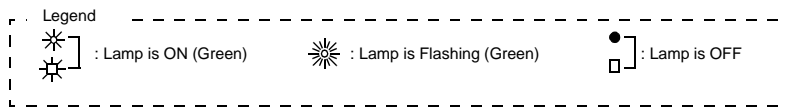

Figure 022-1 LED Indications in Normal Operation (Single IMG Configuration)
The OPE lamps (G) are shown in Figure 022-1 through